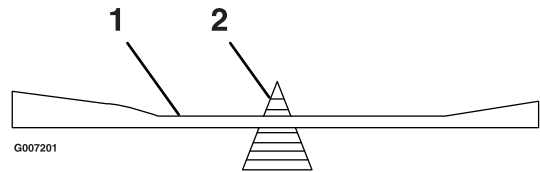

Figure 42
2. Check the balance of the blade by putting it on a blade balancer (Figure 42). If the blade stays in a horizontal position, the blade is balanced and can be used. If the blade is not balanced, file some metal off the end of the sail area only (Figure 42). Repeat this procedure until the blade is balanced.